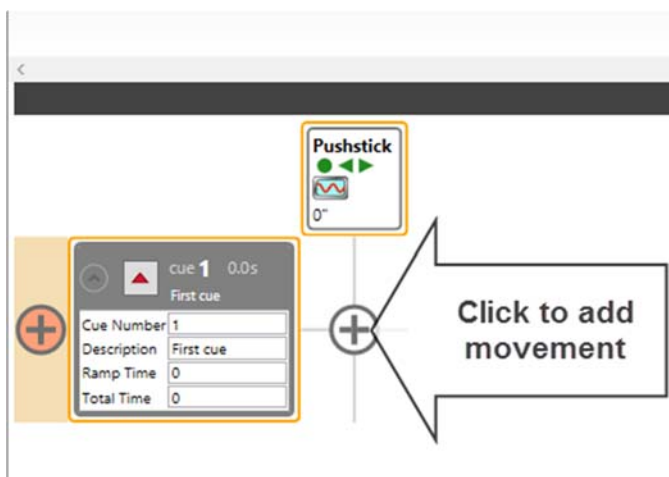

Figure 24
- To add a movement in *Cue 1*, click on the plus button at the intersection of *Pushstick* and *Cue 1* (Figure 24).